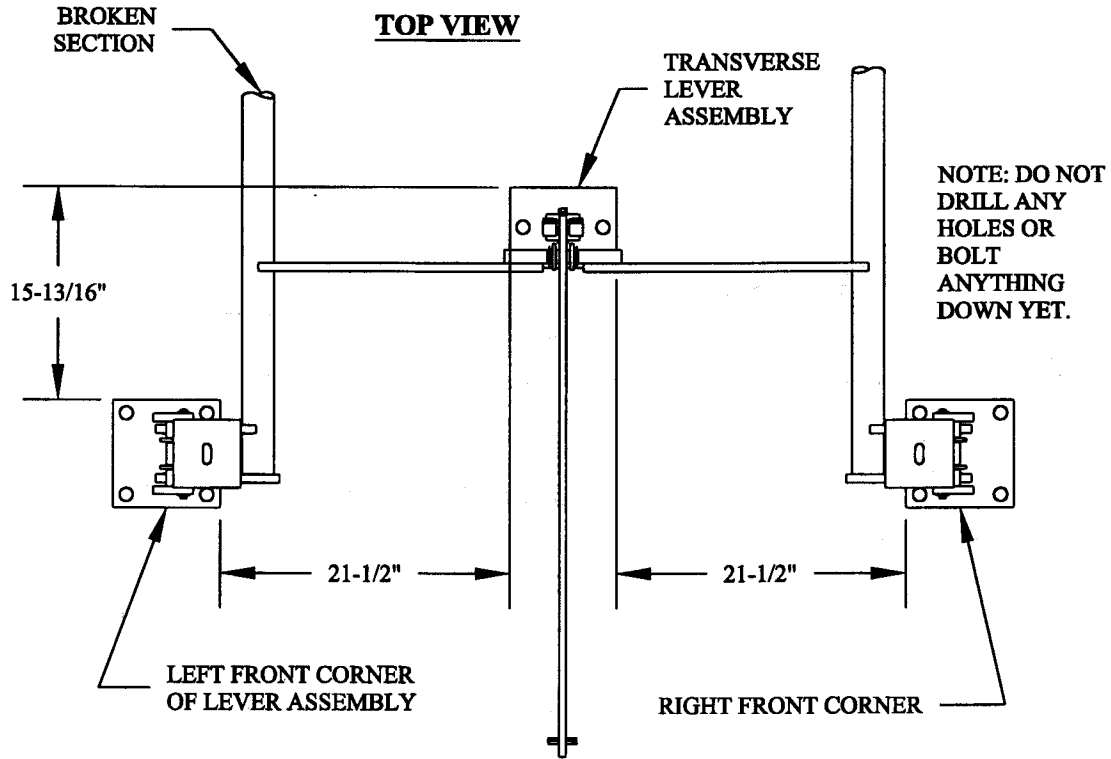

FIG. 5
STEP 5. Line up the transverse lever assembly with the front section of the right and left hand lever assembly. See Fig 5.